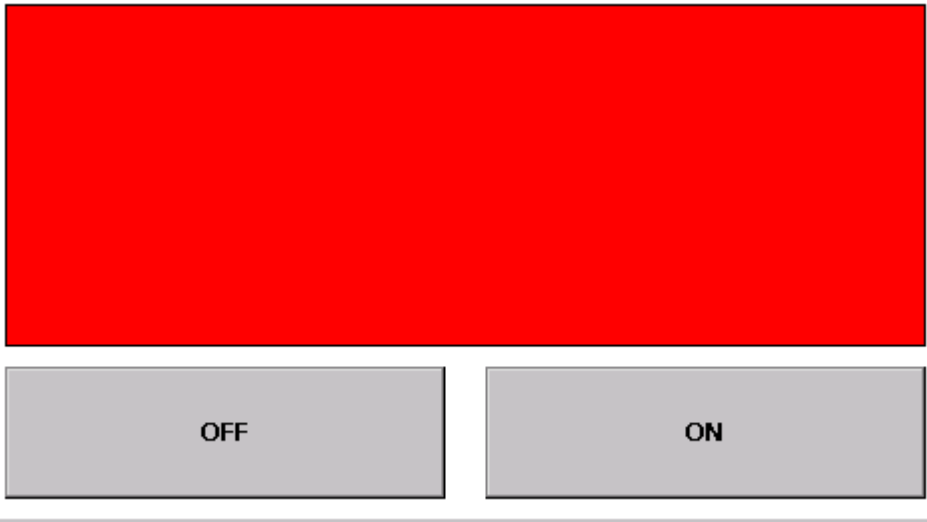

Figure 3.5: GPIO_Win32 Application Initial Screen Shot (LED OFF State)
- 3. After running the GPIO_Win32 sample application, your LCD will display a red box with two buttons below the box, similar to that in Figure 3.5 below. This is considered the OFF state. By selecting the ON button on the touchscreen, the box will turn green.